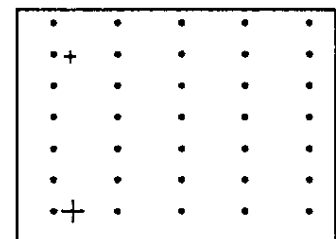

Fig. 6-2-5
- h. Adjust the "+" mark to the a scale interval by using TRACKBALL. For example, using the interval shown in Fig. 6-2-5, a "5" (for 5cm) would be inputted via the keyboard.